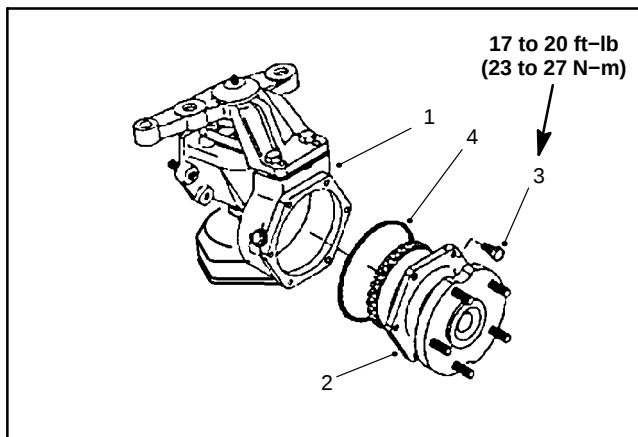

Figure 64
3. Remove the axle cover mounting screws. Remove the axle cover from the axle case as an assembly (Fig. 64).